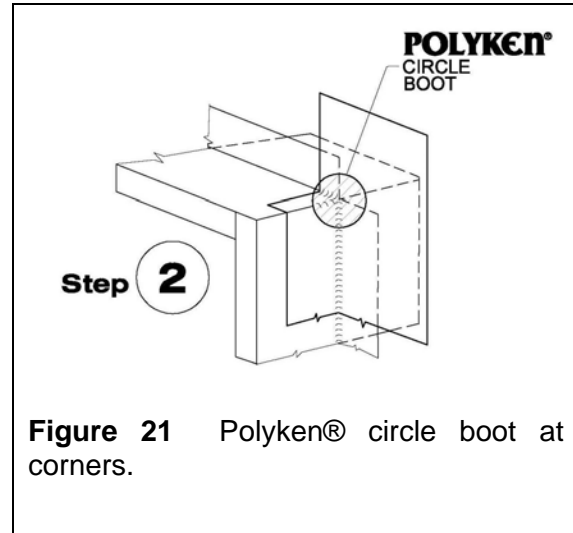

Figure 21 Polyken® circle boot at corners.
Step 2. Apply a circle boot at the corner where a pinhole would occur. See Figure 21.